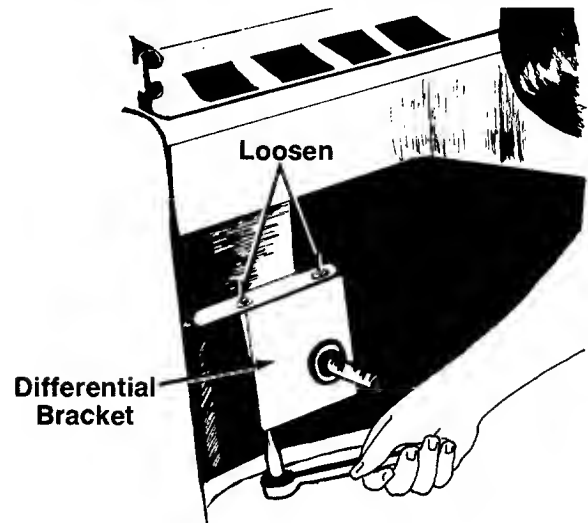

FIGURE 15.
1. To tighten the chain, loosen the two nuts on each side of the frame holding the differential bracket to the frame. See figure 15.